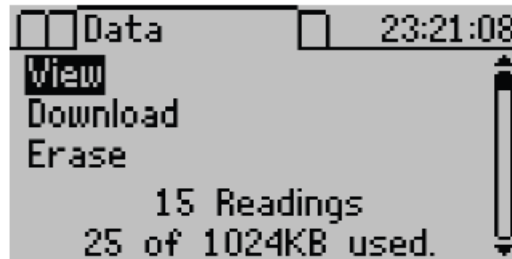

Figure 12 Data screen
1. Press MENU to navigate to the Data tab (Figure 12).